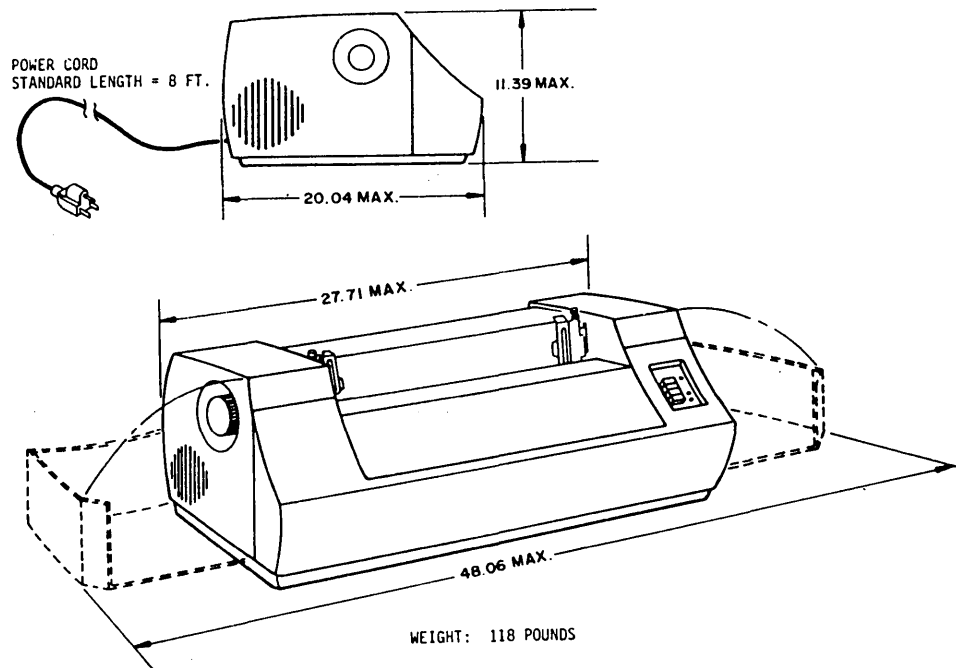

Figure 2-1. PRINTER DIMENSIONS
2.1 SITE PREPARATION (FIGURE 2-1)
A line drawing of the printer dimensions is shown in Figure 2-1. As shown in this drawing, the width of the installation site must take into account the side covers in an opened position.